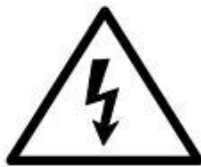

Fig. 6
- ② We apply a highly visible warning label regarding electrical shock hazard (see Fig. 6) near the means of connection on every single module.